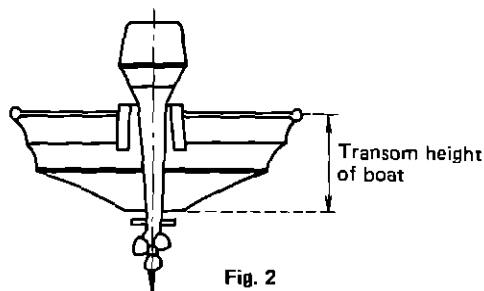

Fig. 2
- 1) Position: The center of the stern (Fig. 2)